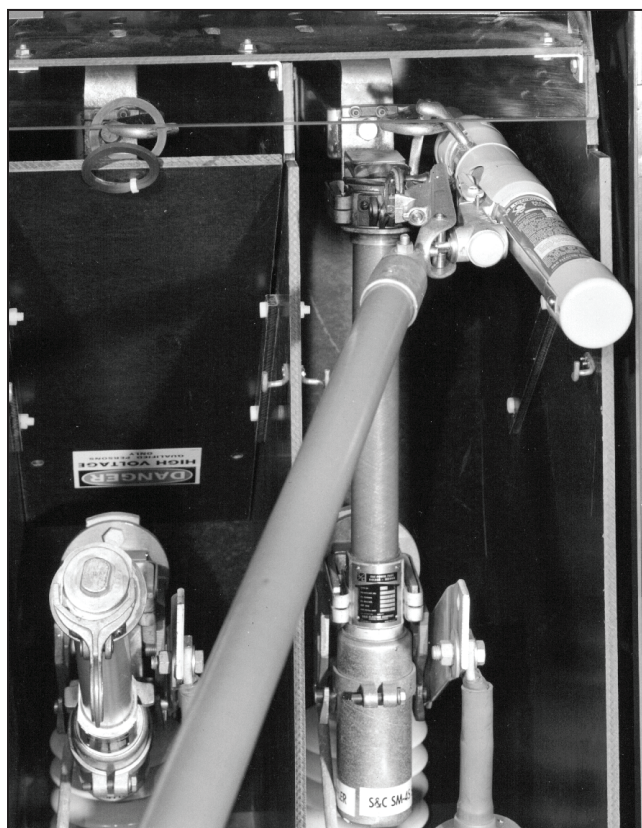

Figure 9. The Loadbuster tool connected to a power fuse.
- STEP 2.** Swing the Loadbuster tool toward the fuse unit or holder and pass the Loadbuster tool pull-ring hook through the pull-ring of the fuse unit or holder. The pull-ring latch will deflect and, upon complete entry of the pull-ring hook, will spring back, locking the Loadbuster tool to the pull-ring. The Loadbuster tool is now connected across the upper contact of the power fuse. See Figure 9.